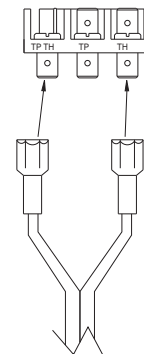

FIG. 2
- ◆ Locate the control valve located at the back of the heater. Notice the electric terminals on the control valve, located on the right hand side of the valve when facing the back of the heater. See FIG. 2.